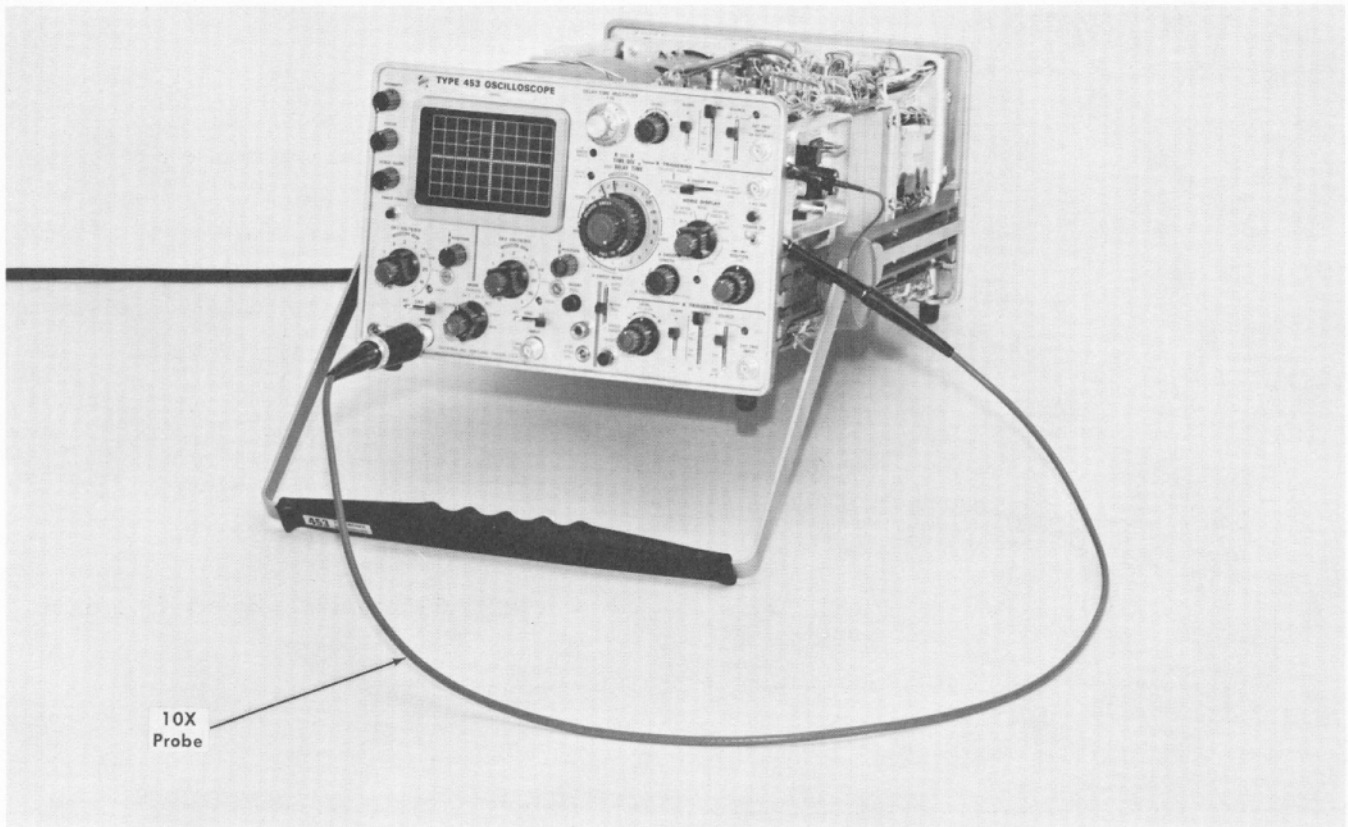

Fig. 6-39. Test equipment setup for step 34.
- a. Test equipment setup is shown in Fig. 6-39.